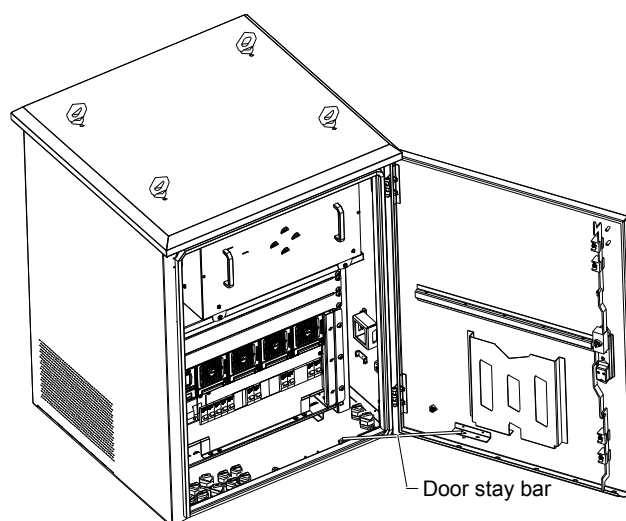

Figure 2-4 Door stay bar of the equipment compartment
3. Adjust the door stay bar to the position shown in Figure 2-4 to prevent the equipment compartment door from closing automatically.